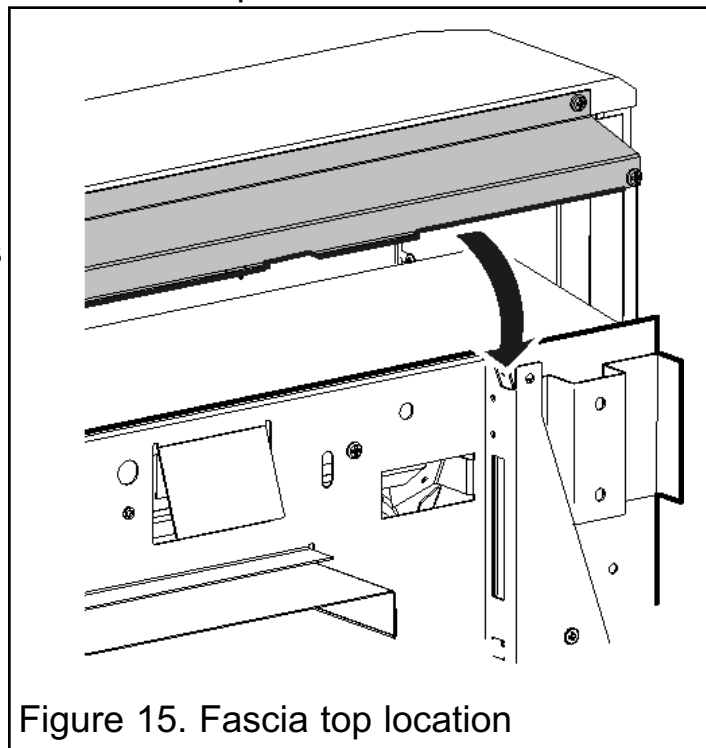

Figure 15. Fascia top location
- Place the fascia over the engine. Make sure that the top rear of the fascia locates fully into the 'U' shaped notch of the engine back panel (See figure 15).
3. Replace in the reverse order. Make sure that the top rear of the of the fascia locates fully into the ‘U’ shaped notch of the engine back panel (See figure15). Make sure that the radiants are not dislodged when refitting the fascia.